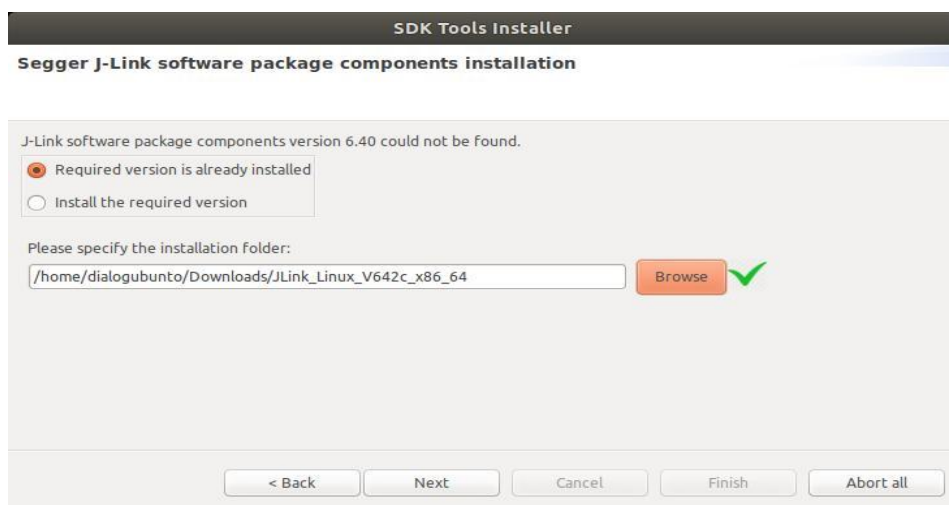

Figure 26: Set SEGGER J-Link Installation directory
- Install the recommended version of SEGGER J-Link GDB server. The V6.14h version will be installed by default. If you have recent SEGGER J-Link version you have just to select the path where it is already installed, as shown in **Figure 26**.